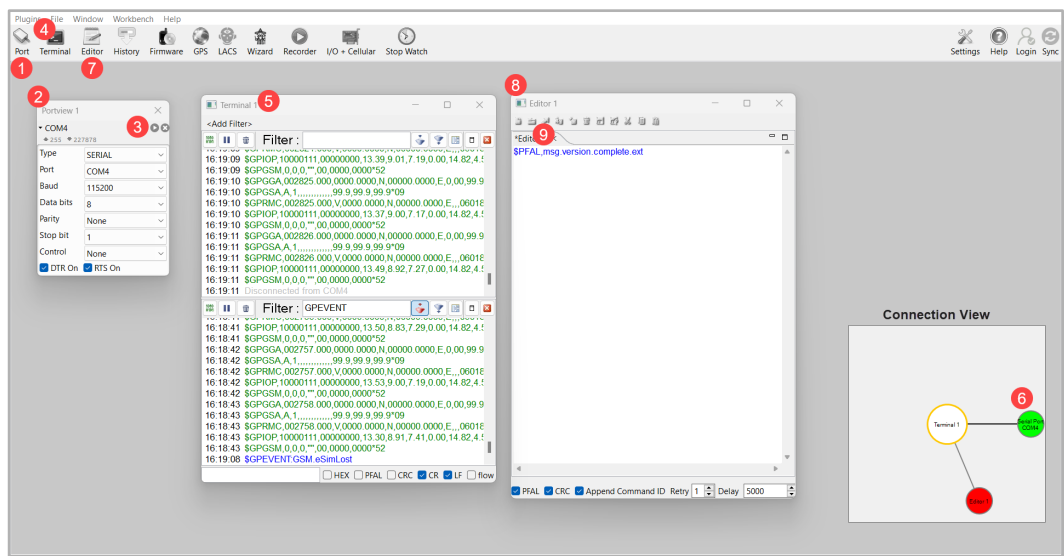

Figure 18: Workbench Interface Components
7. Click **Port (1)**, to open a new Com port, **Portview 1 (2)** displays (see **Figure 18 below**). In **Portview 1**, select the port to which the FOX4-4G device is connected (go to Device Manager > Ports > USB Serial Port (COMxx), where xx is the COM port to use). Select the following values for fields in **Portview 1**: